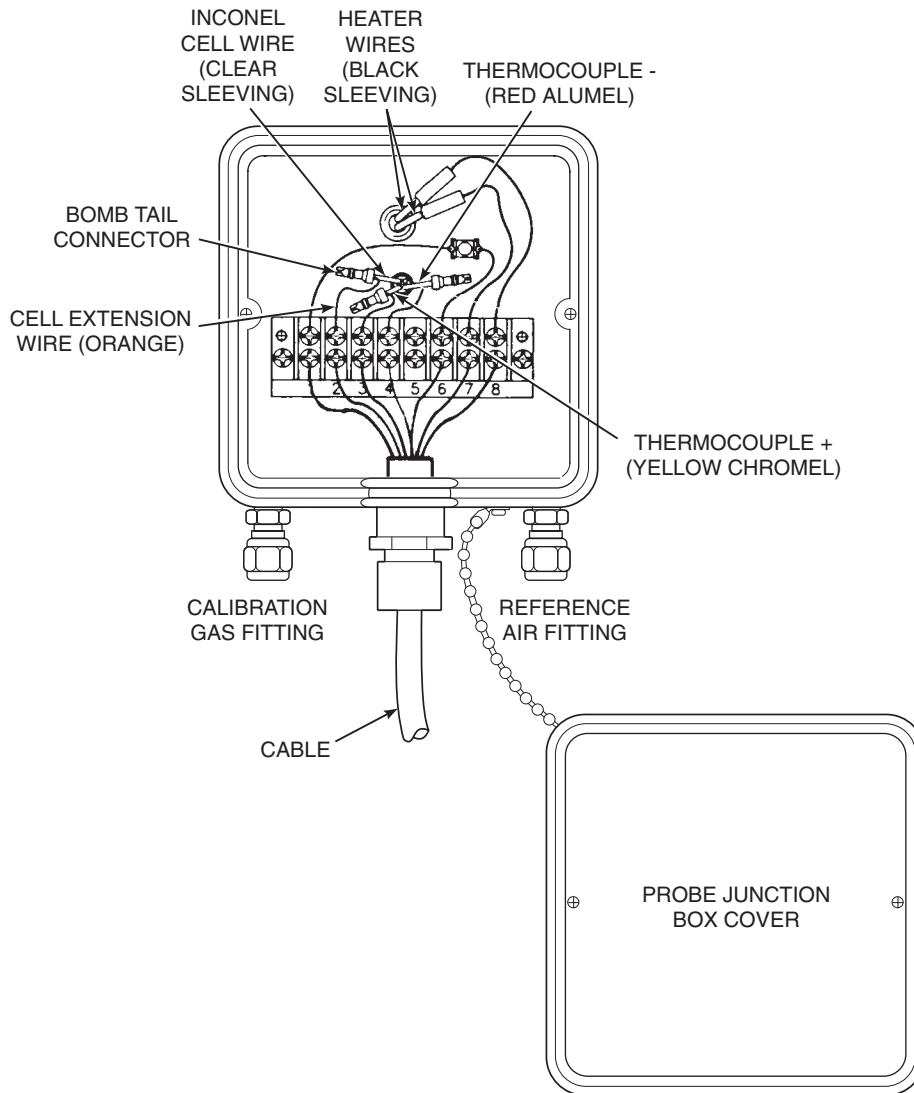

Figure 3-1. Cell Wiring Connection
- a. Disconnect and lock out power to electronics. Shut off and disconnect reference air and calibration gas supplies from probe junction box, Figure 3-1. Wearing heat resistant gloves and clothing, remove probe assembly from stack carefully and allow to cool to room temperature. Do not attempt to work on unit until it has cooled to a comfortable working temperature.
1. Shut off power to electronics. Disconnect cable conductors and remove cable, Figure 3-1. Shut off and disconnect reference air and calibration gas supplies from probe junction box. Wearing heat resistant gloves and clothing, carefully remove probe assembly from stack and allow to cool to room temperature. Do not attempt to work on unit until it has cooled to a comfortable working temperature.
- b. Disconnect cell extension wire (orange), thermocouple wire (red alumel), and thermocouple wire (yellow chromel) by cutting bomb tail connections from the terminal strip, Figure 3-1.
- k. Connect color coded wires to proper terminals as shown in Figure 3-1. Rosemount recommends connecting the thermocouple wires directly to the terminal strip. This is because the junction of different metals at the wires and lugs and at the lugs and the terminal strip could act as additional thermocouple junctions. This could produce a voltage that would affect the thermocouple output signal.